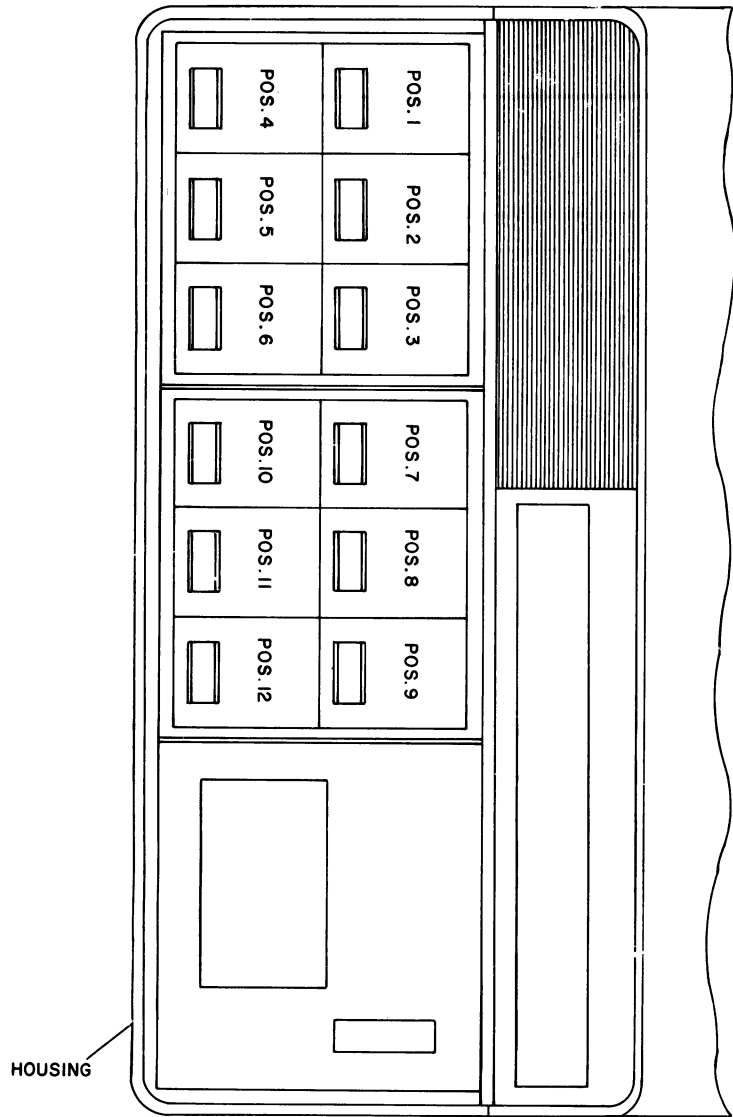

FIG. 2
4. INSTALL SWITCH MODULE IN HOUSING AS SHOWN IN TABULATION AND FIG. 2. (REMOVE SWITCH DUMMY, IF PRESENT, AND RETURN TO STOCK)
5. MAKE CONNECTIONS AS SHOWN IN TABULATION. ROUTE WIRES TO J1111 THRU CABLE CLAMPS SHOWN IN FIG. 2, AND IN HOUSING. SPOT TIE TO EXISTING WIRING.